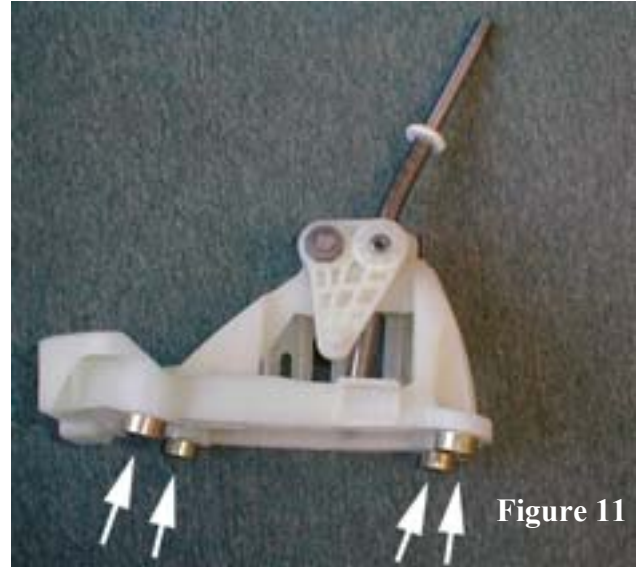
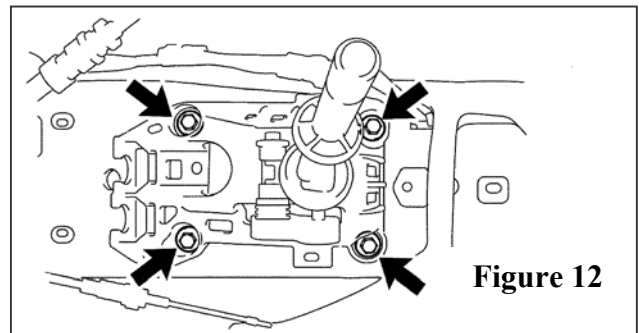

Figure 11
Figure 12
1. Place the 4 metal TRD bushings into the bottom side of the 4 mounting holes of the TRD shift lever assembly (Figure 11). In other words the 4 metal TRD bushings should be sandwiched in between the plastic housing and the vehicle mounting holes. Now drop assembly into place and install the four bolts (Figure 12).